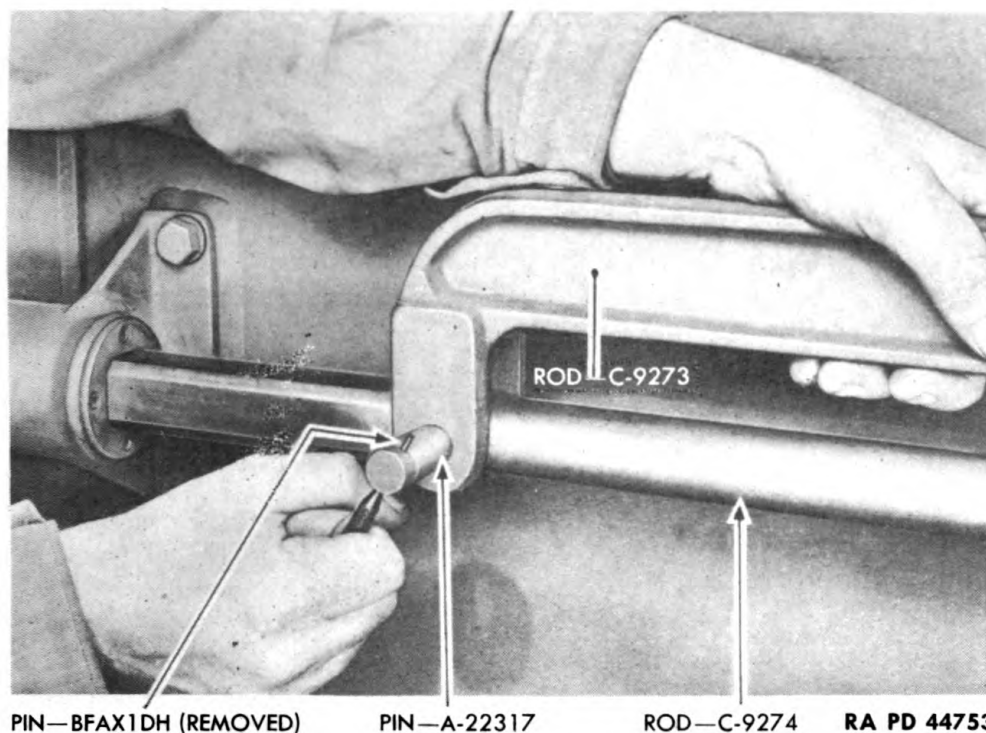

Figure 103—Removing Pin from Variable Recoil Connecting Rod
(1) Remove two cotter pins BFAX1DH from pin A22317 and pull pin A22317 from rods C9273 and C9274. Lift rod C9273 from rod C9274 (fig. 103).